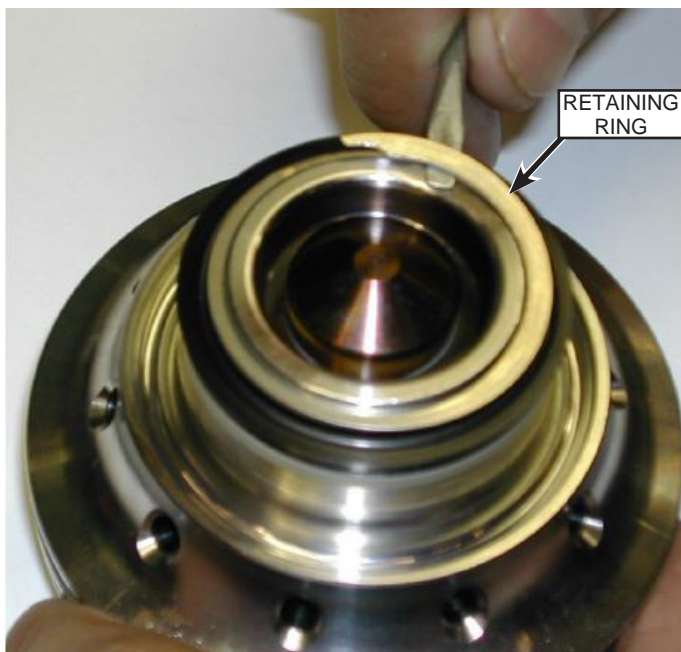

Fig. 99: Retaining Ring Removal
2. Use the screwdriver to remove the seal retaining ring. Insert the blade under the slit and rotate the ring out of the groove as shown in Fig. 99. Use caution to prevent bending or distorting the ring.